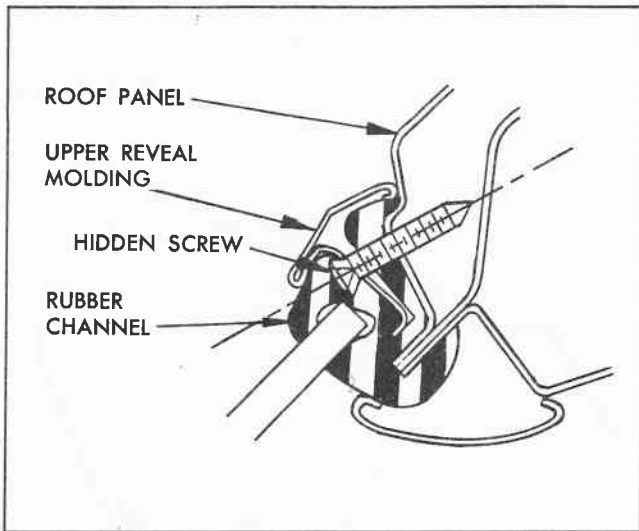

Fig. 2 Cross-Section of Upper Reveal Molding and Windshield Weatherstrip
3. Insert the blade between the upper reveal molding and the rubber channel and slide the blade along the length of the molding. See Figure 2.